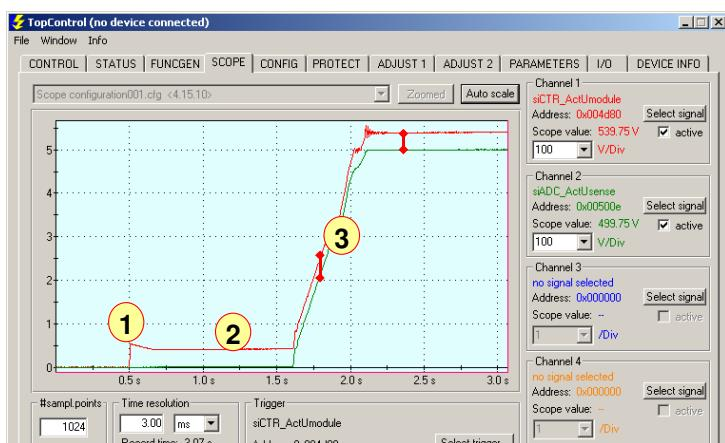

Fig. 22 Illustration of the switching-on process
The starting process from power-on [Voltage ON] can be seen in Fig. 22: in the first phase the voltage  $V_{actModule}$  (top curve) increases to the value  $V_{drop}$  (e.g. 50V) for the linear post-processing unit (see (1) in Fig. 22). This value results from the measured sense voltage (output of TC.LIN is still blocked, hence output voltage is 0V) with the added drop voltage  $U_{drop}$ . This in total sums up to 50 Volts that is presented at the output of the TopCon device (not output of TC.LIN). During the subsequent phase lasting approx. 1s, among other tasks the AAP curve is transmitted to the TC.LIN (2).
After this period, the TC.LIN starts opens the control and the voltage at the output rises (3). This slope is a linear, adjustable function (start-up ramp, default duration = 1s) and prevents the output voltage from overshooting (cf. lower graph in Fig. 22). The output voltage on the TopCon power supply remains in this case constant at  $V_{drop}$  above the measured voltage ( $V_{sense}$ ).